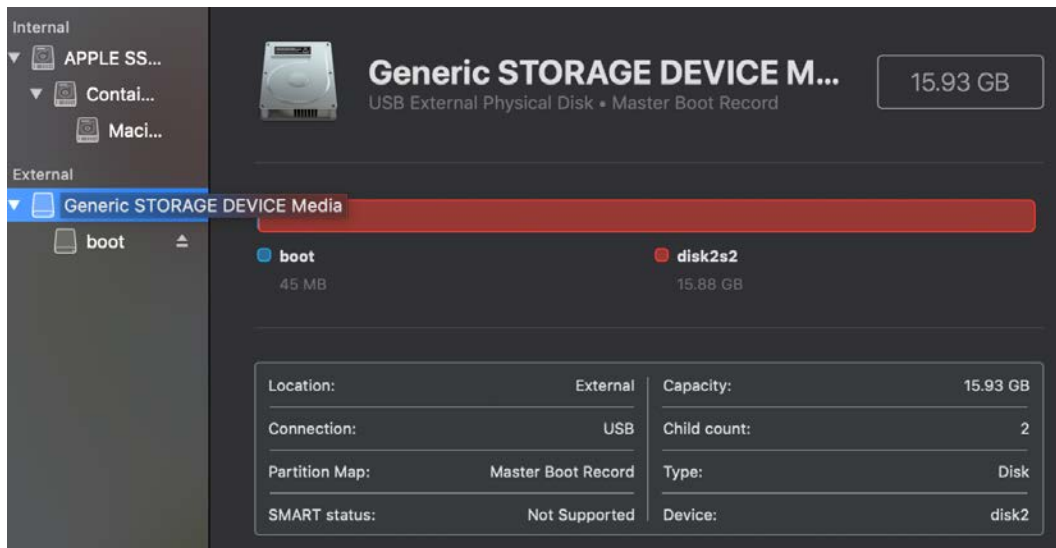

Figure 5.9 – Disk Utility with Show All Devices enabled
4. You should now see the screen shown in *Figure 5.9*. Select the device that contains a boot volume: